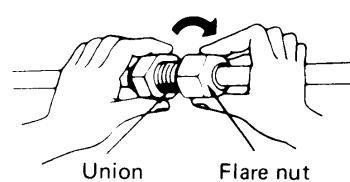

Fig. 27
- c) For proper connection, hold the tube with union and the flared tube straight with each other, screw in the flare nut lightly at first to obtain smooth match. Fig. 27